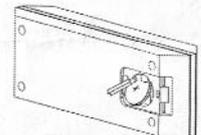

Figure 6
2. The battery will release quickly (Fig.6)